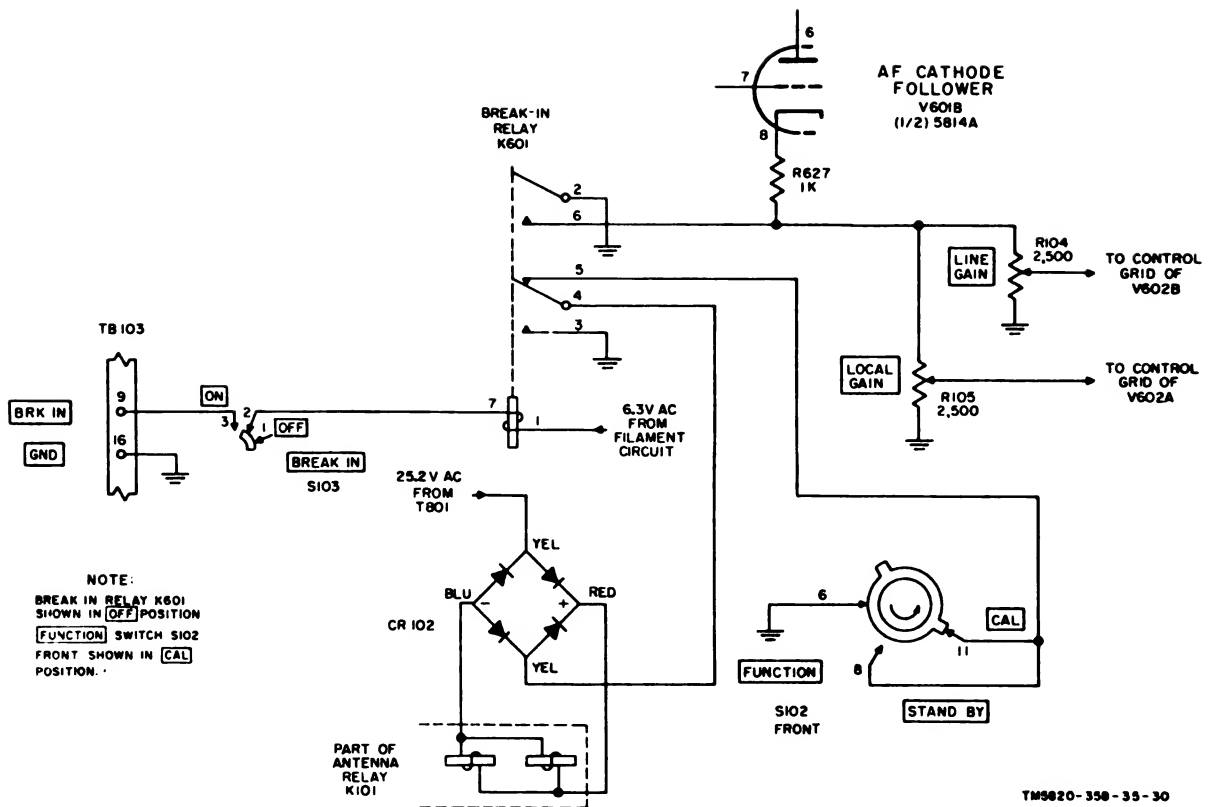

Figure 26. Break-in circuit, simplified schematic diagram.
cathode of V601B is connected to ground through cathode resistor R627, in series with parallel-connected potentiometers R104 and R105. These are respectively the LINE GAIN and the LOCAL GAIN controls on the receiver front panel. The line audio signals are taken from the arm of potentiometer R104 through coupling capacitor C607 to the control grid of line af amplifier V602B. Local audio signals are fed from the arm of potentiometer R105 through coupling capacitor C604 to the control grid of local af amplifier V602A. Grid return resistor R608 of af cathode follower V601B is connected from the control grid to the junction of R627 and the parallel combination of the LOCAL GAIN and LINE GAIN controls. Sufficient cathode bias prevents excessive plate current from flowing when the BREAK IN switch (fig. 26) causes the contacts of relay K601 to close and ground the lower end of R627. When S104 is in the WIDE position, capacitor C601 and resistor R602 feed the audio signal present at the junction of R627, R608, R104, and R105 to the control grid of the first af amplifier through S104 terminals 4 and 6. This introduces negative feedback into the V601A circuit and reduces the gain of this stage approximately 5 db. This loss of gain is comparable to the loss in FL601 in the SHARP position. The negative feedback also reduces distortion in these two stages.
26. Break-In Circuit (fig. 26)